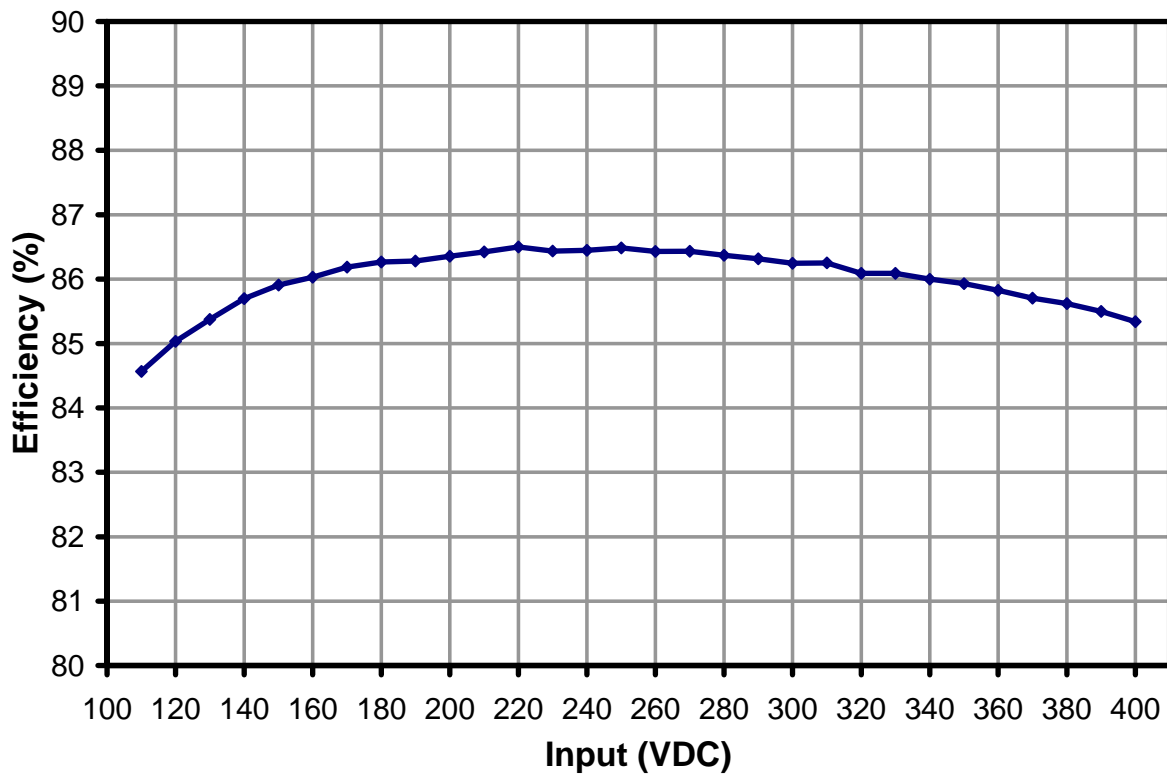

Figure 37 – Efficiency vs. Input Voltage, Room Temperature.
**Table 5** – Data for Efficiency in Figure 37.